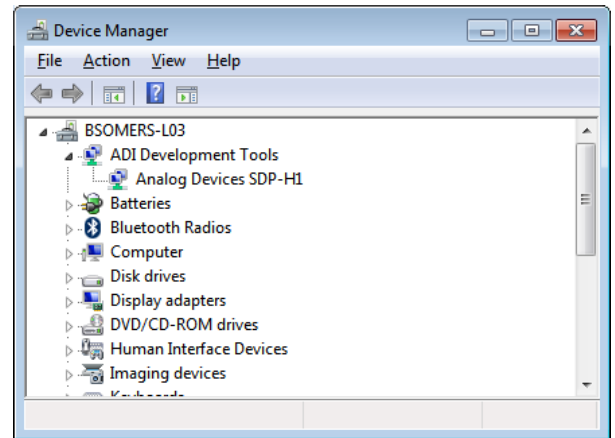

Figure 10. Device Manager Window
2. Navigate to the **Device Manager** window on the PC (see Figure 10).
4. The **Computer Management** window opens. In the list labeled **System Tools**, click **Device Manager**. If the EVAL-SDP-CH1Z driver is installed and the board is properly connected to the PC, **Analog Devices SDP-H1** is shown in the **ADI Development Tools** list in the **Device Manager** window, as shown in Figure 10.